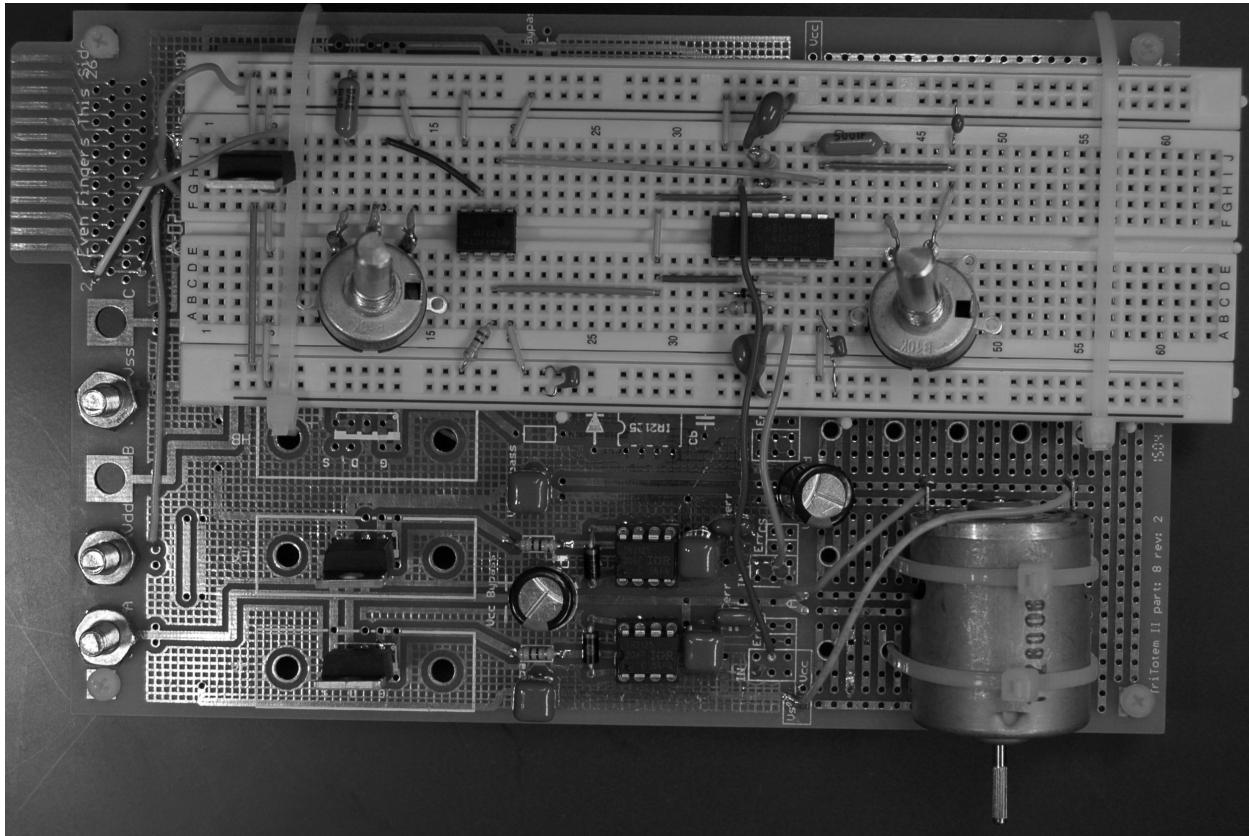

Figure 13. Completed Breadboard Connected to PCB
- 1- Secure the breadboard to the PCB using two zip-tie fasteners as shown in Figure 13.
- 3- Secure the DC motor to the PCB using two zip-tie fasteners as shown in Figure 13.